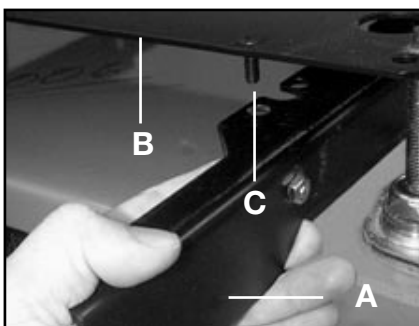

Fig. 7
6. Install the support brackets (A) Fig. 7 to the underneath side of the plate (B) Fig. 7, using four 1/4-20 flat head screws (C) Fig. 7. Secure with flanged hex nuts.